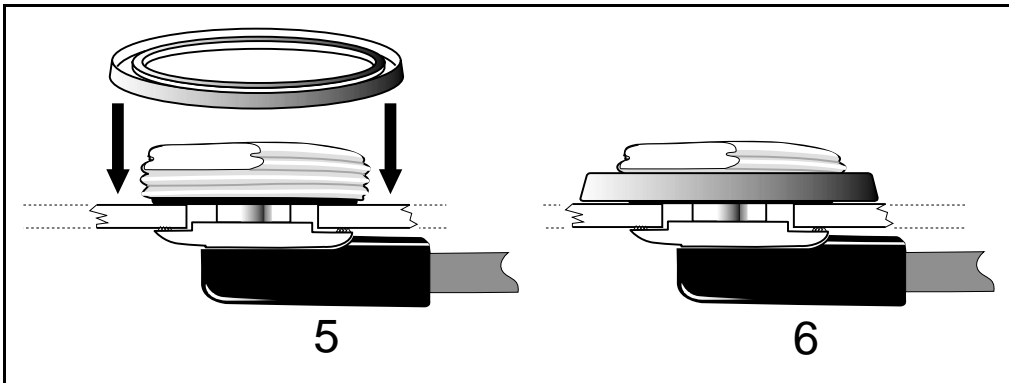

Figure 2.18 Attaching the Antenna to the Cable Assembly
7. Place the rubber gasket over the brass nut (Step 5, Figure 2.18).